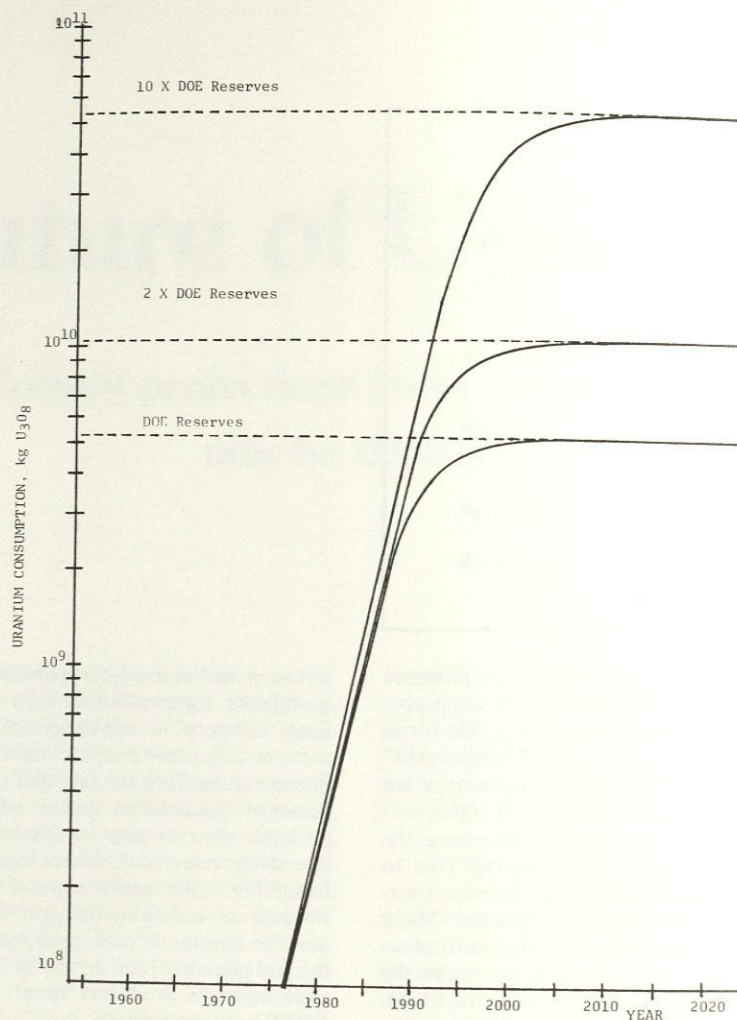

Figure 1
Equation (1) is plotted in Fig. 1 using the size of the uranium reserve as a parameter. It is seen that the size of the reserve raises the height of the curve but does not substantially shift it in time. Even if the DOE reserves are low by an order of magnitude, the model predicts most of the world's uranium will be consumed by early in the next century.